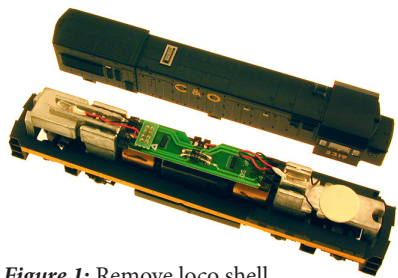

Figure 1: Remove loco shell
1. Carefully remove the locomotive shell. (**Figure 1**) Note the orientation to the frame for correct re-installation.